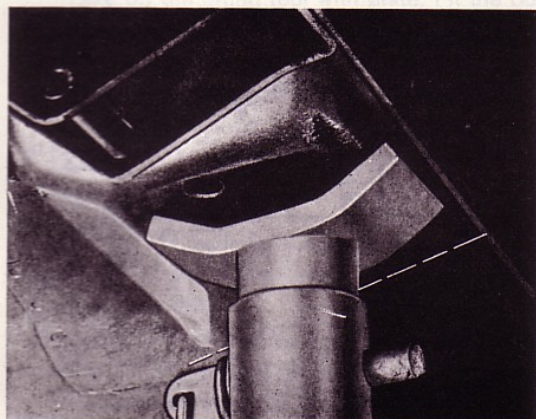

Fig. 8. Location of block stand, 140-series
10. Jack up the vehicle with four blocks (for 140-series under the front jack attachments and in front of the rear jack attachment according to Fig. 8).